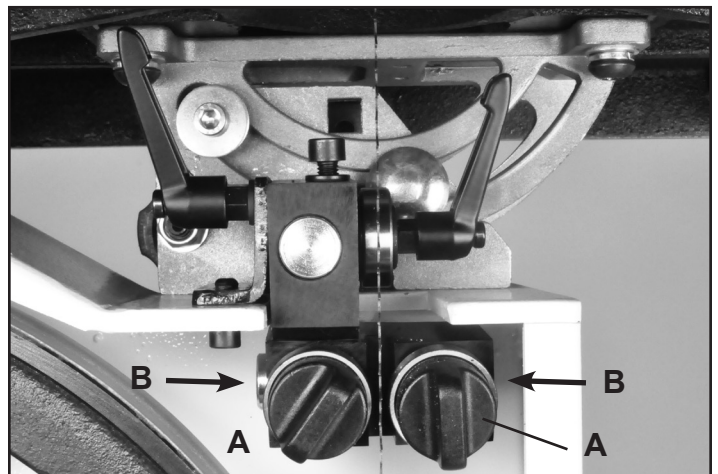

FIGURE 10
1. Position the right and left roller guides close to the blade. Loosen the front Lock Handles (Fig. 10, A). Move the guides towards the blade by pushing the ends of the Guide Shafts (B), or use the front lock handles to pull the guides towards the blade. Lock the guides in place. Figure 10.